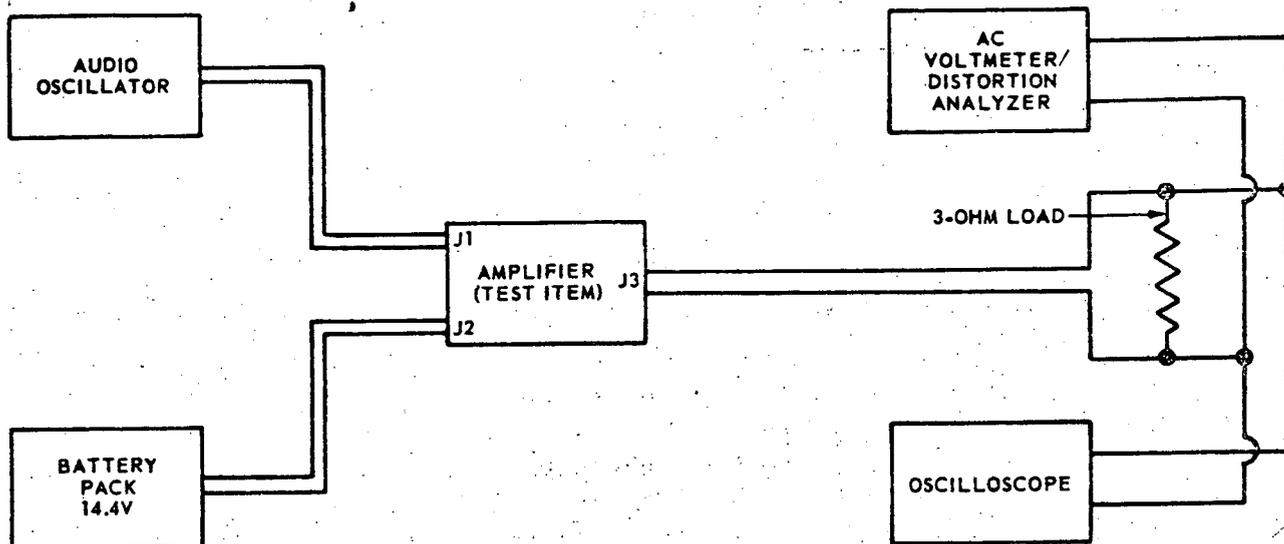

Figure 3-3. Amplifier Test Setup
<p>Amplifier low or no output or oscillates.</p> <p>Note: Refer to back cover of manual for test procedure.</p>	<p>C4 from pin 4 of the power amplifier AR1 and check again. A good signal indicates a fault in the power amplifier section. A weak or distorted signal indicates a fault in the preamplifier.</p> <p>3. Isolate fault within preamplifier (power amplifier good).</p> <p>a. Check to see that 4 mV appears at terminal E1. If not, check resistor R1.</p> <p>b. Disconnect the signal source and check dc voltages at capacitor C2 and around transistor Q1. If the supply voltage at capacitor C2 is not normal, check for 15+1V at terminal E4. If voltages around transistor Q1 are not as specified in Figure 3-1, check transistor Q1 and associated capacitors C1, C4, C5, and C6.</p> <p>4. Isolate fault within power amplifier (preamplifier good). With input signal disconnected, check all voltages around preamplifier. If all are normal, reconnect test tone and check output directly at pin 8 with the oscilloscope (Figure 3-3). If voltages differ from values specified in Figure 3-1, check associated capacitors C7 through C10. If this fails to correct the problem, replace power amplifier AR1.</p>
<p>Amplifier oscillates with low or no input. (Note: this does not refer to acoustic feedback with the microphone and speaker attached, unless the problem can be duplicated using the test setup shown in Figure 3-3.)</p>	<ol style="list-style-type: none"> 1. If the oscillation is a "motorboating," check capacitor C2. 2. If oscillation continues, check capacitors associated with the power amplifier. If this fails, replace power amplifier AR1.
4.4.1 GENERAL. The adjustment portion of the maintenance section consists of an overall alignment procedure for the Voice Amplifier System. Connect the equipment as shown in Figure 3-3.